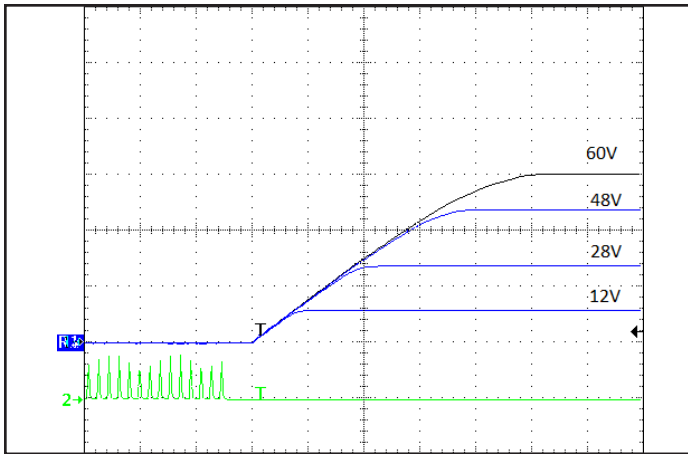

Figure 7: Turn-on transient at 28V input; full load (10ms/div). Top Traces: Vout (20V/div). Bottom Trace: ON/OFF input (5V/div)
**REMOTE ON/OFF:** Only Negative On/Off logic is available in the converter series: logic high at the input turns the converter Off while a logic low turns in On. Timing of this is shown in Figures 7, 8. A high level can be driven to any voltage between 1.5V and 3.3V, or simply left floating as the unit contains an internal 25KΩ pull-up to 5.0V. The pin can be pulled low (to Vsense-) by an optocoupler, an open-source/drain transistor or wired permanently to Vsense-. To provide noise immunity the input has 0.3V of hysteresis.